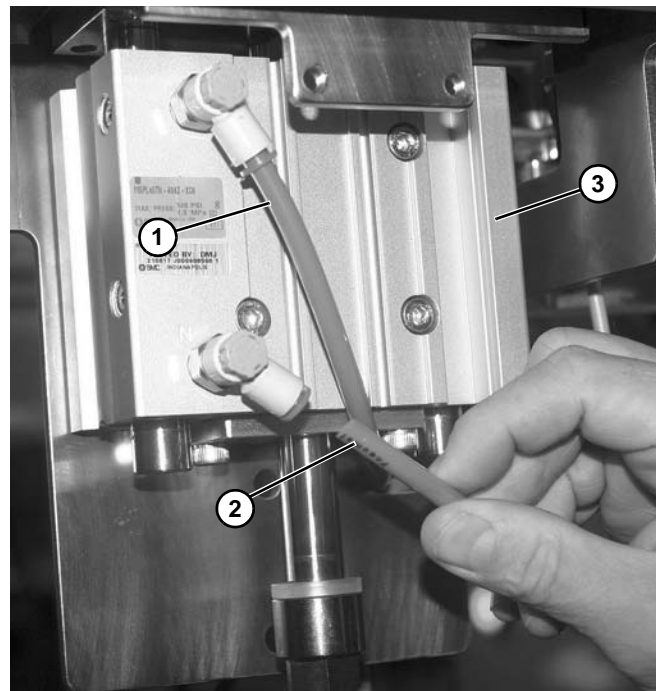
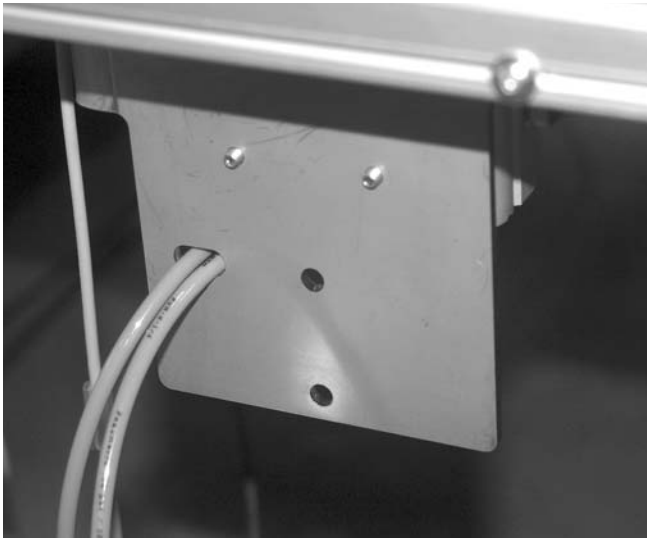

Figure 100
Figure 101
Be sure to mark lower and upper hoses and their locations and routing to aid in reinstalling. (See Figure 100 and Figure 101.)
7. Disconnect upper (Figure 100, item 1) and lower (Figure 100, item 2) hoses from fittings on lift cylinder (Figure 100, item 3).